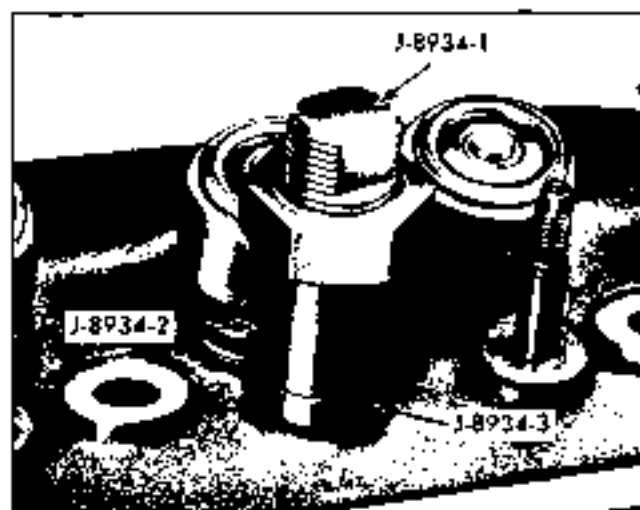

Fig. 6-87 Rocker Arm Stud Removal
8. Thread $7/8"$ standard nut on stud remover and turn nut until rocker arm stud is out of cylinder head (Fig. 6-87).